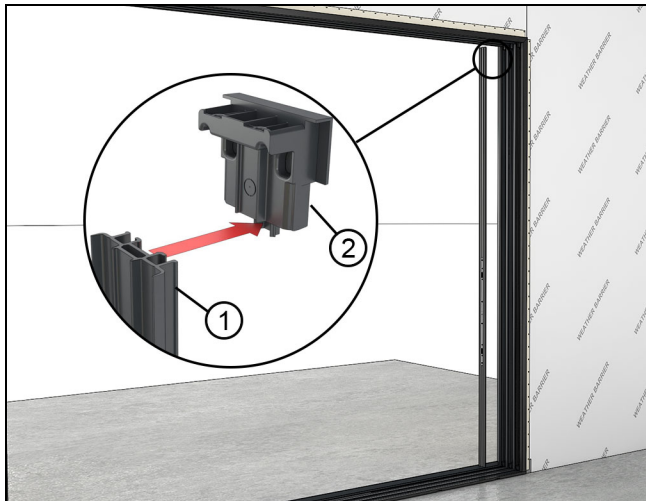

Figure 74
10. On uni-directional units, install the jamb filler with strike attached. The filler will snap into place, engaging with the top and bottom corner keys. See Figure 74.